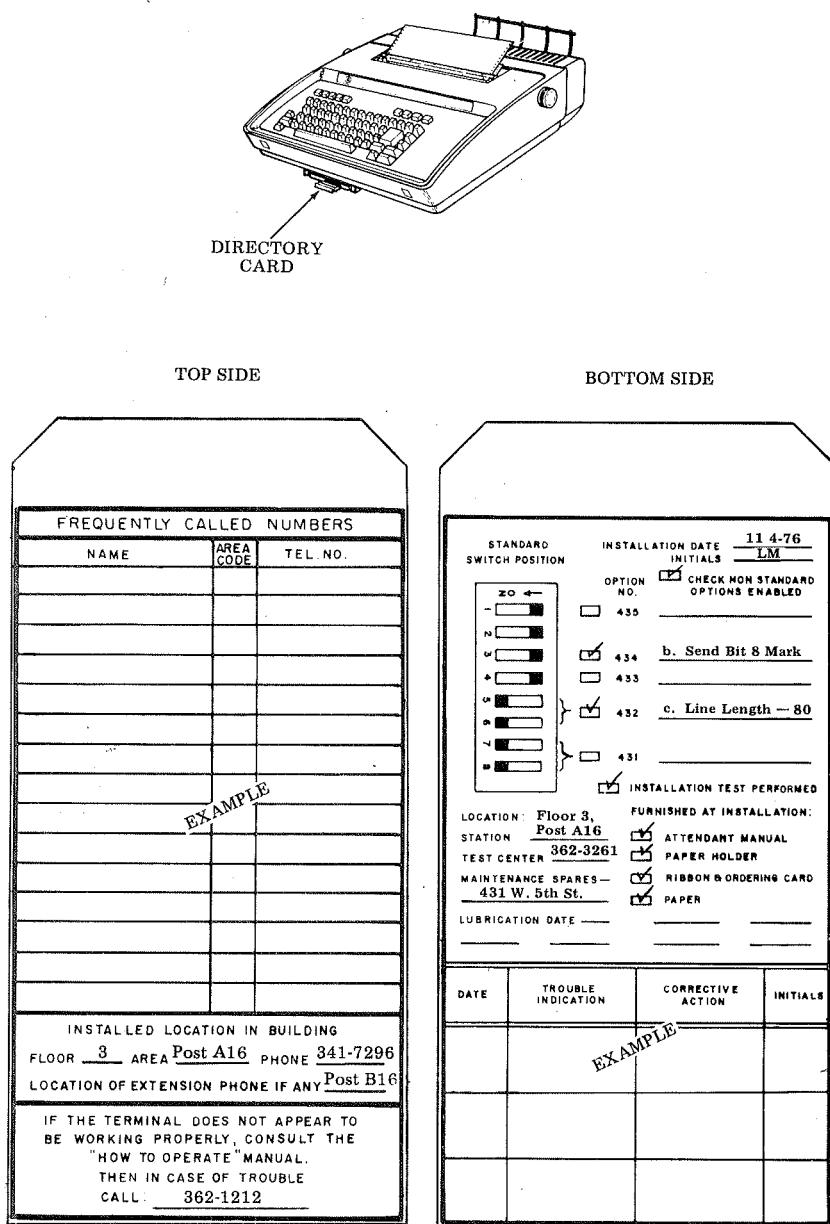

Fig. 8—Directory Card
3.24 Record the installed location of the station (floor, area, and phone number), location of extension phone(s) if any, and the number to be called in case of trouble in the space provided on the slide-out directory card (Fig. 8).